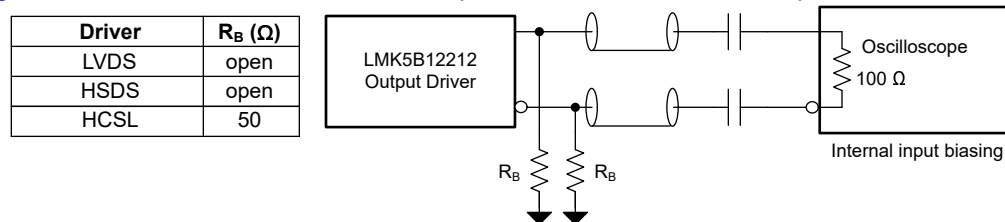

Figure 4-10. Output Termination Recommendations
1. Make sure all required outputs have proper termination components installed to match the desired output types. Figure 4-10 shows the recommended output terminations for each output format.